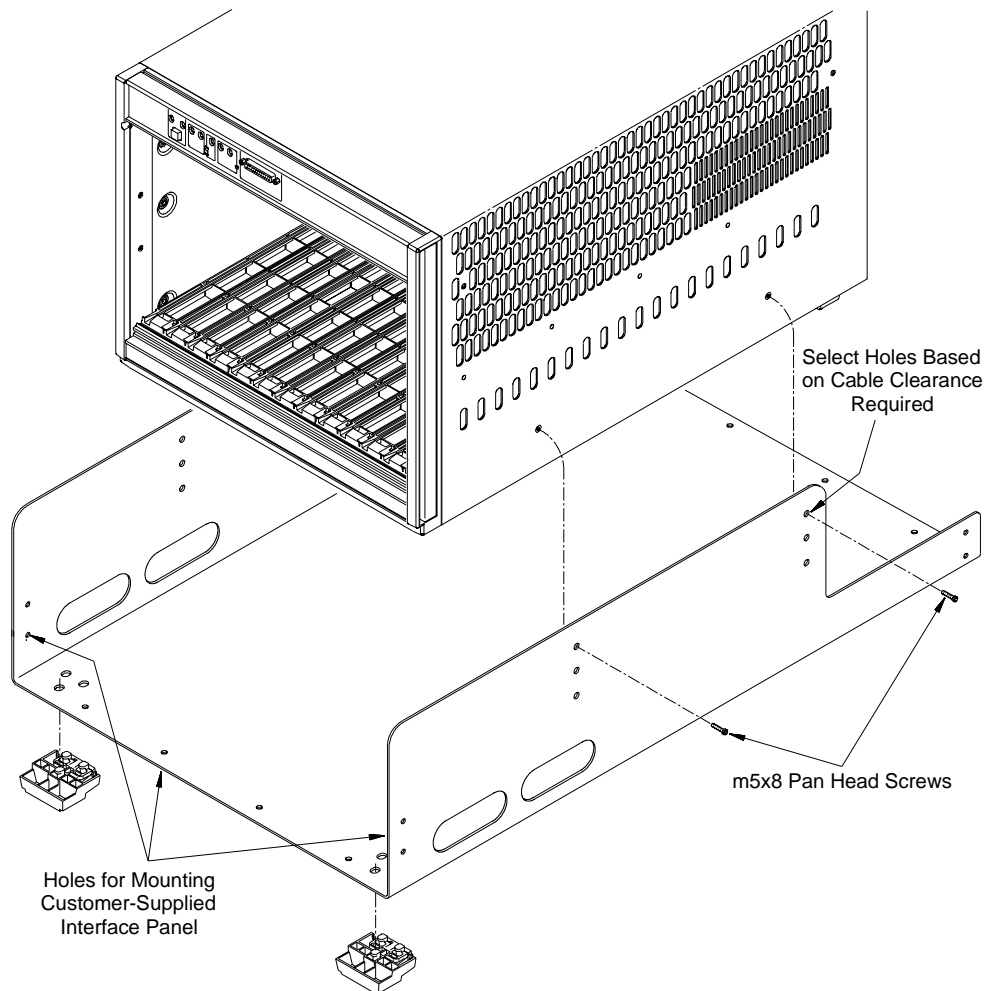

Figure 2-11. Installing the Cable Tray.
2. Attach the cable tray to the mainframe as shown in Figure 2-11 using four m5x8 pan head screws. Select the tray holes based on the amount of cable clearance required.